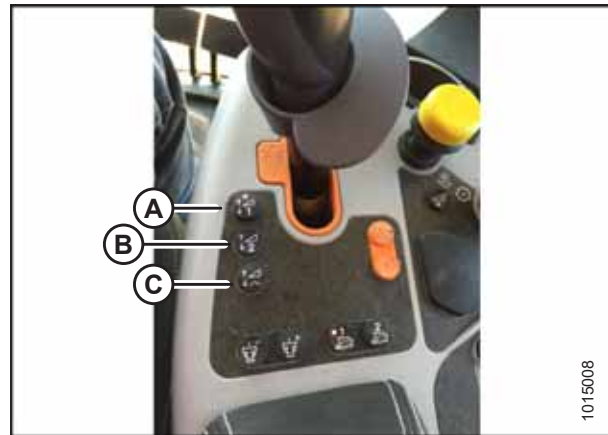

Figure 4.131: New Holland Combine Controls
5. Select one of auto height set point buttons shown in Figure 4.131, page 158.